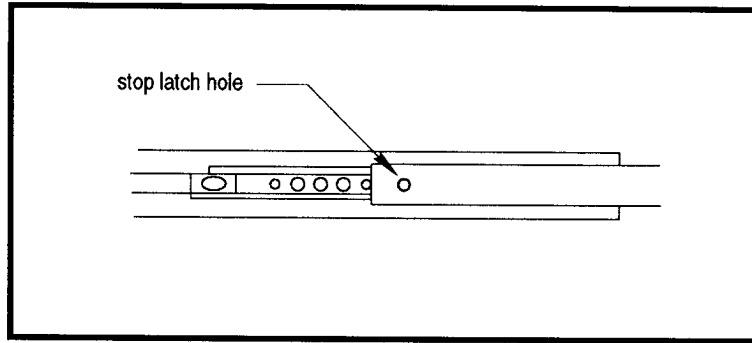

Figure 2-6. Stop latch engaged.
4. Press and hold the stop latches, and push the instrument into the rack until the stop latches snap into their holes, as shown in Figure 2-6, following.